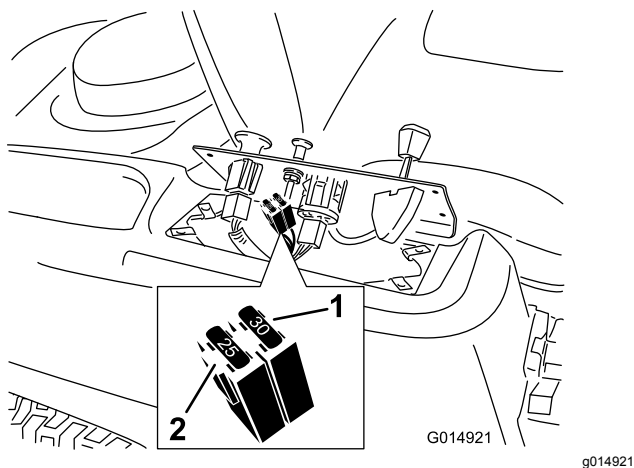

Figure 54
2. Lift the control pane up to access the main wire harness and fuse block (Figure 54).
3. To replace a fuse, pull out the fuse to remove it (Figure 54).